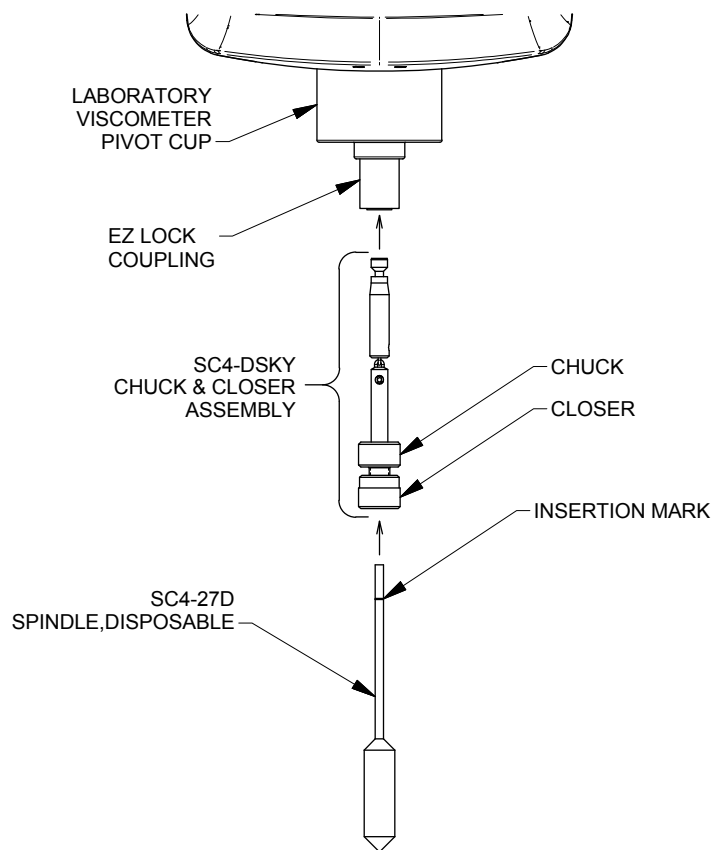

Figure C-3: EZ-Lock
5. For EZ-Lock assembly, attach the assembly (spindle and chuck) to the viscometer by raising the spring-loaded sleeve at the base of the viscometer pivot cup and inserting the chuck. Slide the sleeve back down to lock the assembly in place. See Figure C-3.